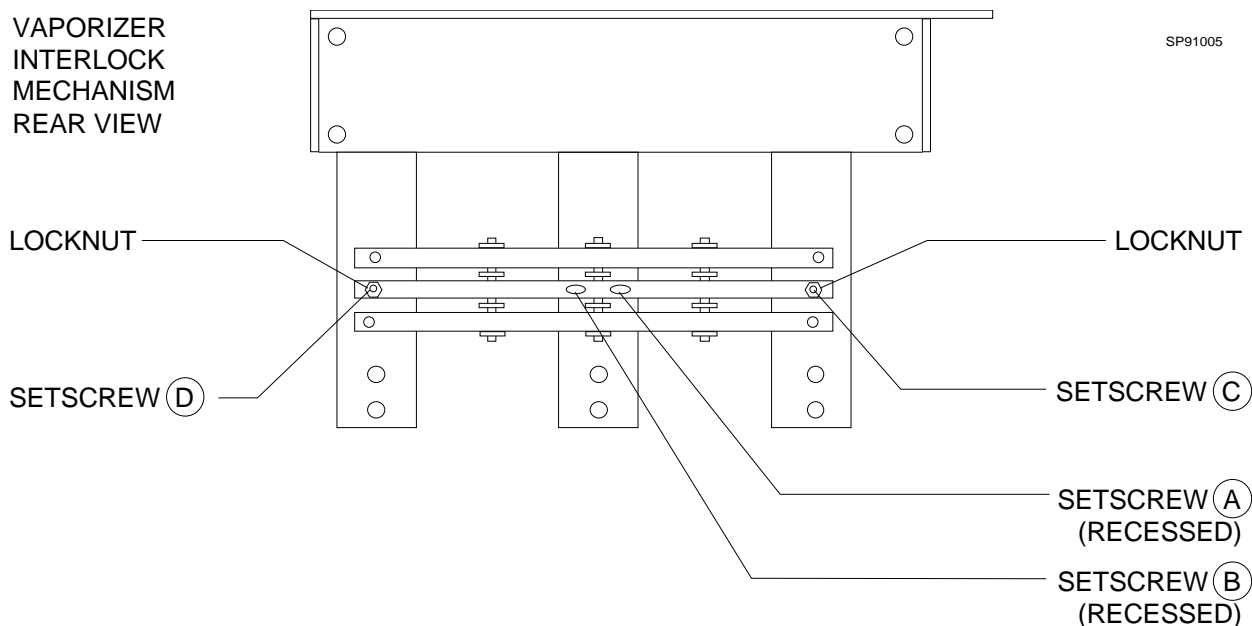

Figure 4: VAPORIZER INTERLOCK ADJUSTMENT
3. Depress the "0" button on the center mounted vaporizer and verify that the vaporizer can not be turned on. Also verify that there is a minimal amount of "free play" in the handwheel and the interlock mechanism. If adjustment is required, tighten set screw (A) (see Figure 4) until the vaporizer locks without "free play".
6. Loosen the lock nut securing set screw © or Ⓓ on the long pivot arm (see Figure 4), and back out the set screw several turns.
- 10A. Loosen the lock nut securing set screw © or Ⓓ on the long pivot arm (see Figure 4), and turn in the set screw ½ revolution clockwise.
15. Back out set screw Ⓑ several turns. See Figure 4.